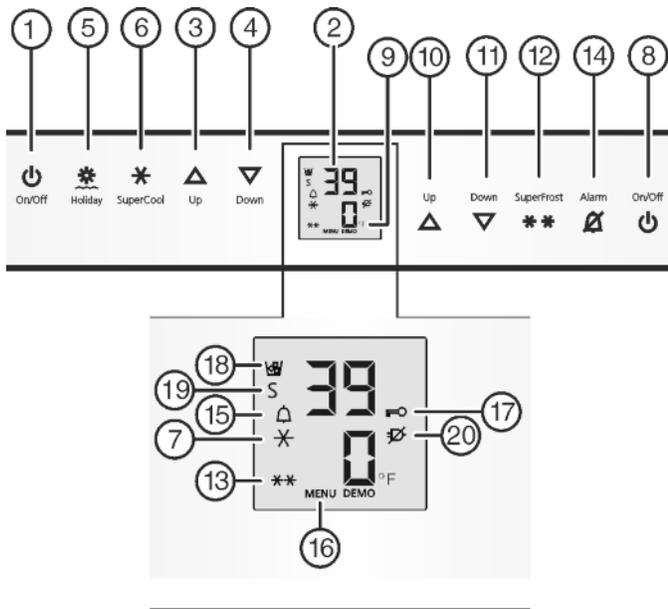

Fig. 3
- ▶ Press On/Off button, freezer compartment Fig. 3 (8).
- ▶ Press Fridge compartment On/Off button Fig. 3 (1).
- ▷ Fridge and BioFresh compartment are on: Fridge temperature display Fig. 3 (2) is on. When the refrigerator compartment door opens the interior light comes on.
- ▶ Activate setting mode: Press SuperFrost button *Fig. 3 (12)* for about 5 seconds.
- ▷ The Menu symbol *Fig. 3 (16)* lights up.
- ▶ Using Freezer compartment Up button *Fig. 3 (10)*/ Freezer compartment Down button *Fig. 3 (11)* select °.
- ▶ To confirm: Briefly press SuperFrost button *Fig. 3 (12)*.
- ▶ Using Freezer compartment Up button *Fig. 3 (10)*/ Freezer compartment Down button *Fig. 3 (11)* select °F or °C.
- ▶ To exit setting mode: Press Freezer compartment On/Off button *Fig. 3 (8)*.
- ▶ Activate setting mode: press and hold the SuperFrost button *Fig. 3 (12)* for approximately 5 s.
- ▶ Using the Freezer compartment Up button *Fig. 3 (10)* or Freezer compartment Down button *Fig. 3 (11)*, select c.
- ▶ Press the SuperFrost button *Fig. 3 (12)* briefly to confirm.
- ▶ To switch on the child-proof lock, press the SuperFrost button *Fig. 3 (12)* briefly.
- ▷ The Child safety symbol *Fig. 3 (17)* lights up. c flashes on the display.
- ▶ To switch off the child-proof lock, press the SuperFrost button *Fig. 3 (12)* briefly.
- ▷ The Child safety symbol *Fig. 3 (17)* goes out. c flashes on the display.
- ▶ Deactivate setting mode: press the Freezer compartment On/Off button *Fig. 3 (8)*.
- ▶ Press Alarm button *Fig. 3 (14)*.
At the same time, the Alarm symbol *Fig. 3 (15)* will flash.
The audible warning automatically ceases, the Alarm symbol *Fig. 3 (15)* goes out, and the temperature display stops flashing when the temperature is cold enough again.